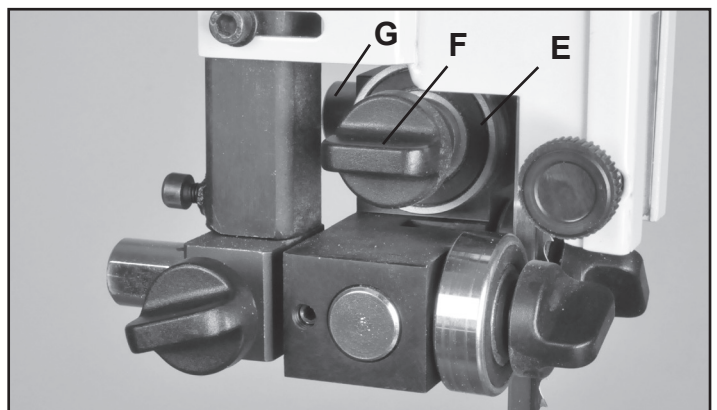

FIGURE 24
4. Adjust the rear bearing guide (Fig. 24, E) to be just clear of the back of the saw blade. Release the guide's Locking Handle (#17C, F) and move the rear guide towards the blade by pushing the end of the Rear Guide Shaft (#27C, G), located at the rear of the block. Tighten the handle when done. Fig. 24.